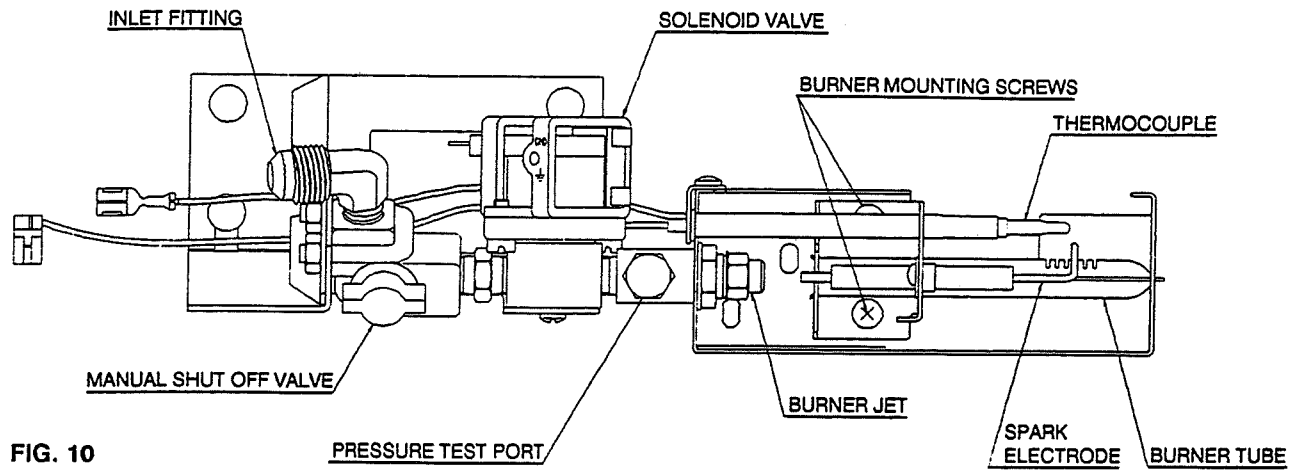

FIG. 10
- D. The LP gas pressure should be checked and the main regulator re-adjusted if pressure is incorrect. The correct operating pressure is 11 inches of water column. The correct place to take the LP gas pressure is at the test port just ahead of the burner jet (See FIG. 10).
6. Remove the burner mounting screws and remove the burner assembly. (See FIG. 10).
Set main regulator so pressure does not drop below 11 inches water column at pressure test port (see side 11 FIG. 10).